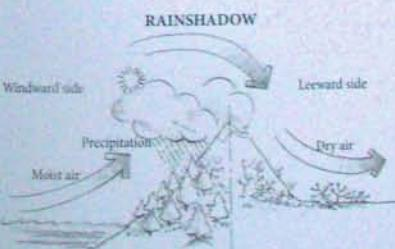

Figure 3
- Do you get local precipitation effects: heavy snows near large lakes, ocean fog, mountain-induced rainshadow (see figure 3)?